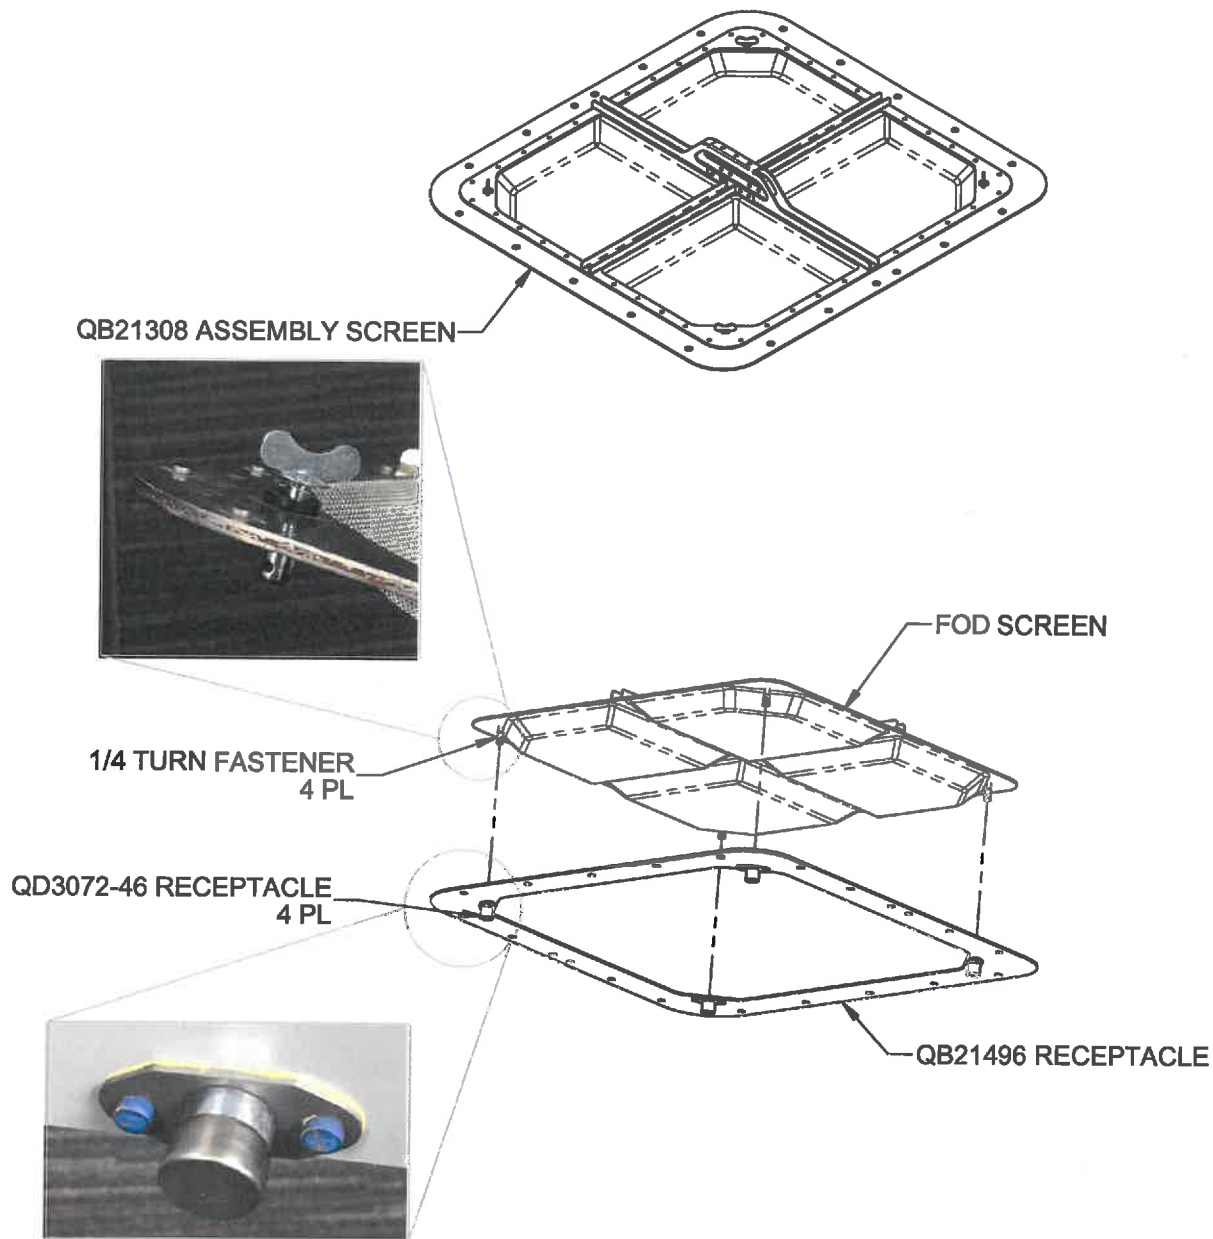

Figure 1 - QB21308 Assembly Screen
2. Remove the Air Intake Seal and the entire QB21308 Assembly Screen by removing qty(22) fasteners washers per the Aircraft Maintenance Manual. Retain hardware.
4. Separate the FOD screen from the QB21496 Receptacle by turning the 1/4 turn fasteners and lifting the handle per Figure 1.
10. Reinstall the QB21308 Assembly Screen between the Engine Intake Duct and the Air Intake Seal removed at step 2 using qty(22) fasteners per the Aircraft Maintenance Manual.